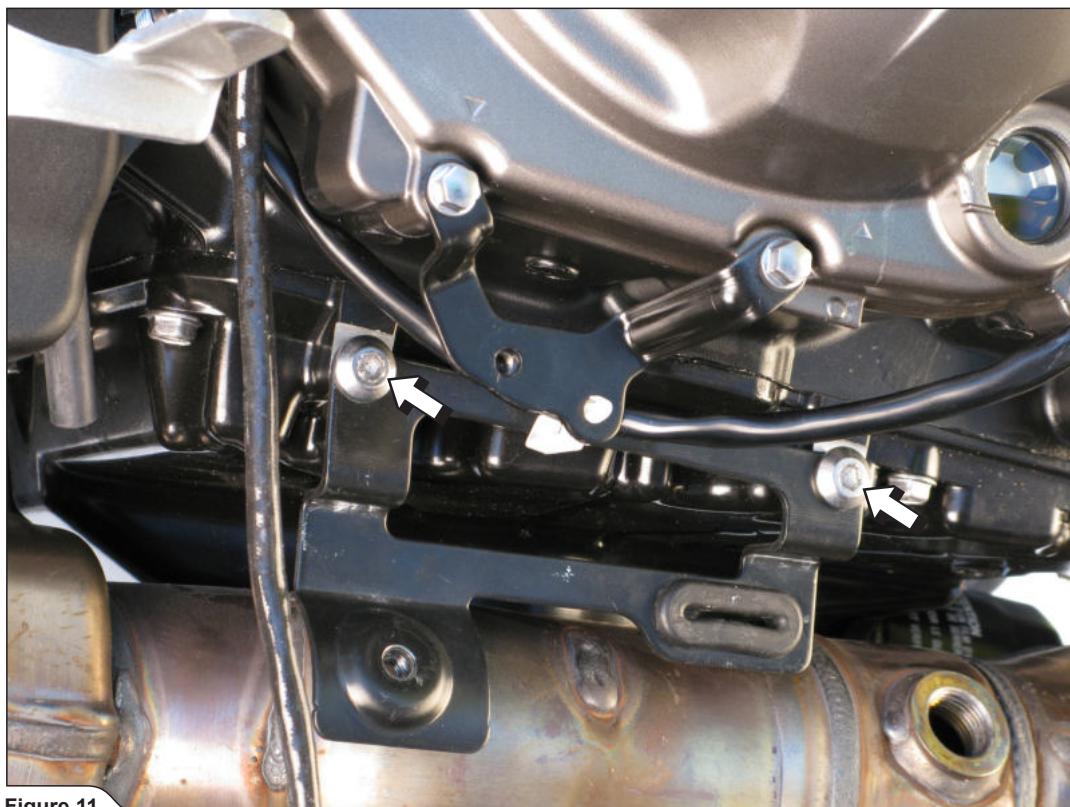

Figure 11
10. For Z1000 model only: unscrew the marked bolts and remove the heat shield's bracket off the motorcycle (Figure 11).